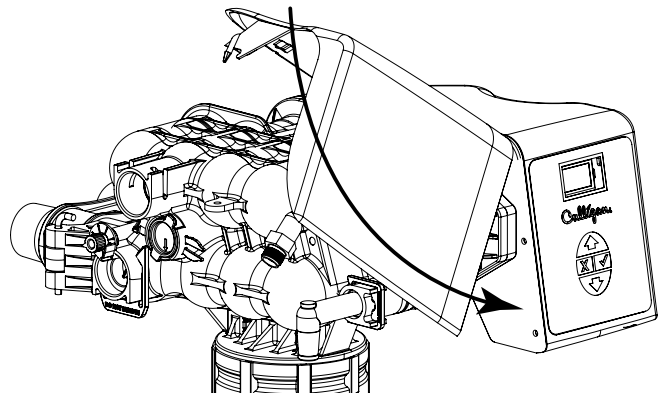

Figure 10. Reattaching the HE softener cover.
2. Rotate the cover downward inserting the two pins on the side of the cover into the two holes on side of the frame. See Figure 10.